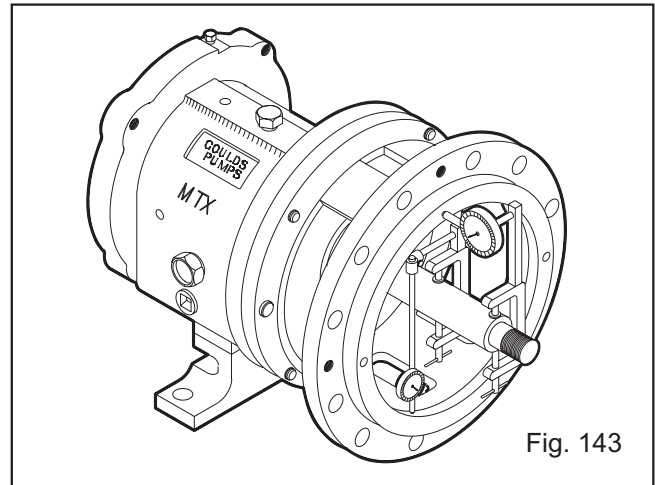

Fig. 143
8. Check adapter fits. Rotate shaft through 360 degrees. If total indicator reading is greater than .005 in. (.13 mm), determine the cause and correct before proceeding (Fig. 143).